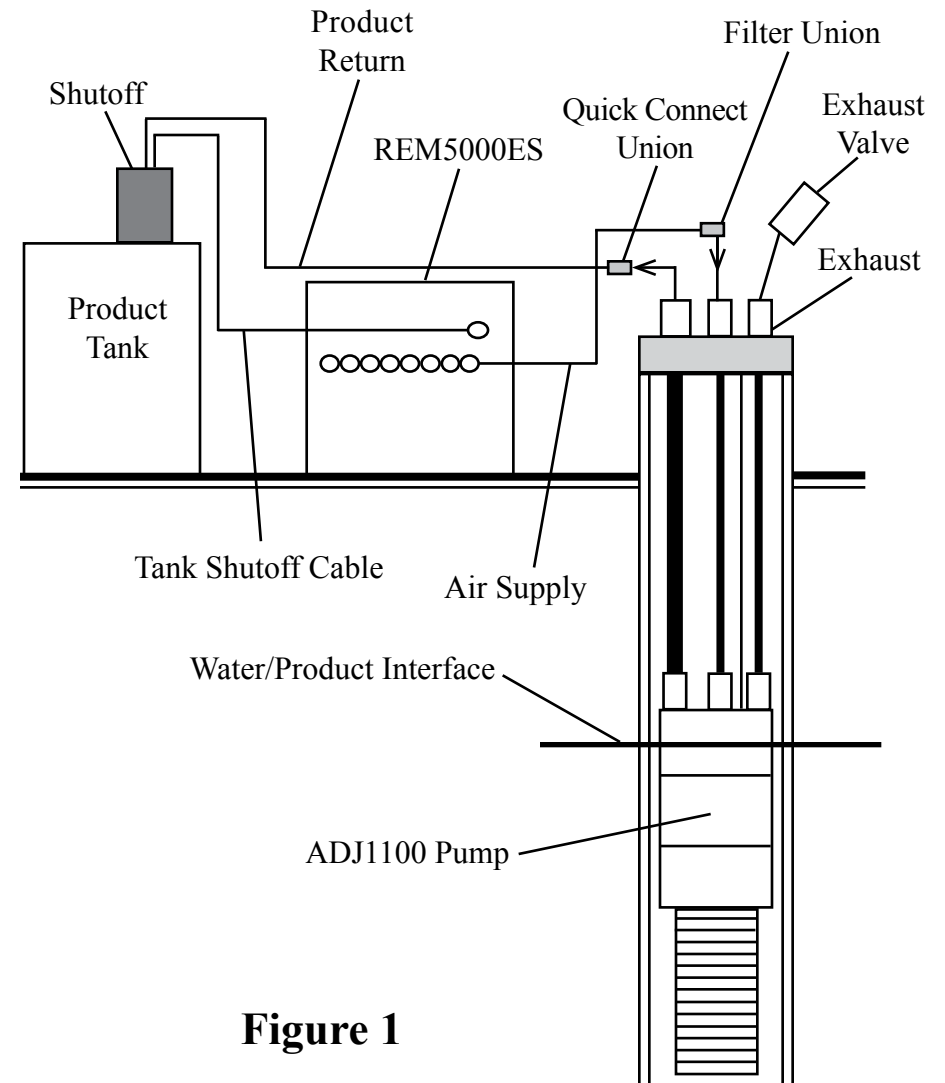
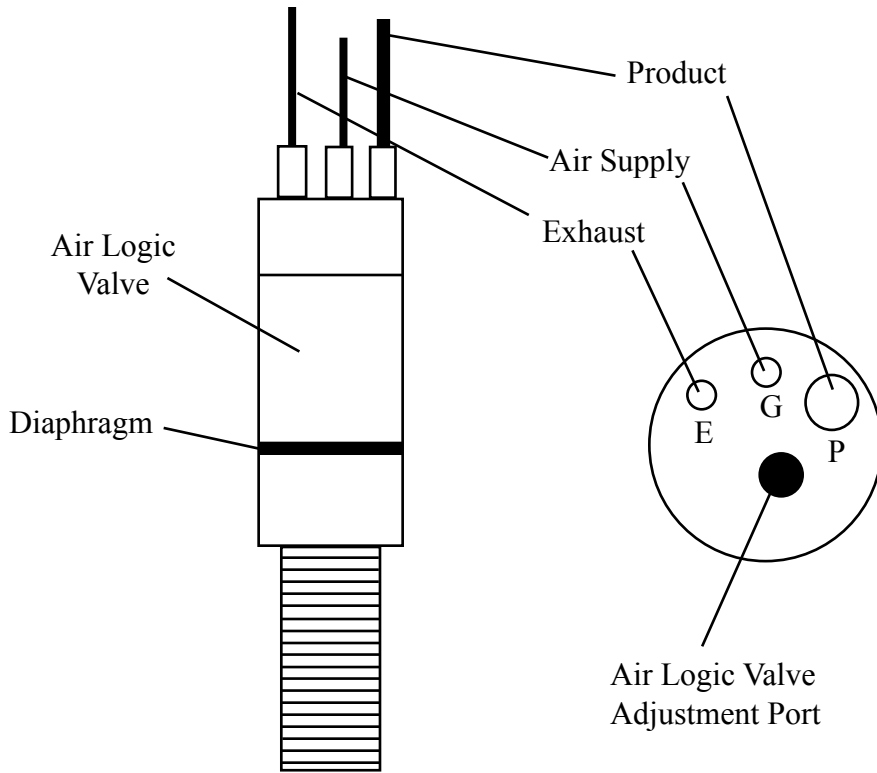

Figure 1
Figure 3
The system (Figure 1) relates to sinking DNAPL recovery in wells four inches in diameter and larger. This system includes: an intrinsically safe ADJ1100 pneumatic Smart Pump (Figure 3) which removes DNAPL down to 200 feet deep; and a solar powered Control Station Model REM5000ES which operates up to 8 pumps intermittently, records run time, and has a high level tank shutoff assembly.
STEP 2. Install holding tank shutoff assembly into holding tank (a 2” standard pipe inlet will be required in the holding tank). The level of product in the holding tank can be set by raising or lowering the liquid level float switch rod. Plug the high level shutoff switch cable connector into the left end of the controller (Figure 1).
STEP 6. Position the pump and well cap on the ground near the well. Cut a length of 3/8" OD air supply tubing to cover the distance from top of the well down to the bottom of the well, plus 5 feet. Slide enough tubing through the well cap to position the pump at the bottom of the well and attach the end of the tubing to the top of the pump tube fitting labeled "G" (Figure 3).
STEP 7. Cut a length of 1/2" OD product tubing same length as the air supply line. Install 1/2" OD product tubing through the well cap tube fitting labeled "P" (Figure 3). Slide enough tubing through the well cap and attach the end of the tubing to the top of the pump tube fitting labeled "P". **CAUTION:** Do not kink the tubing.